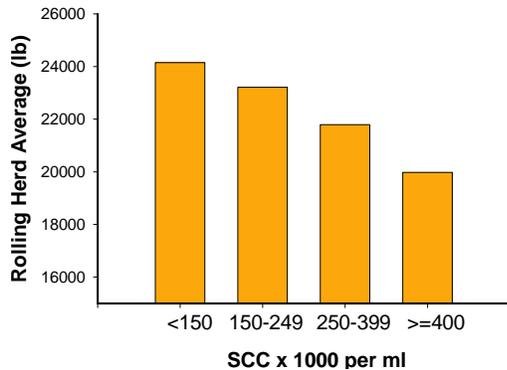
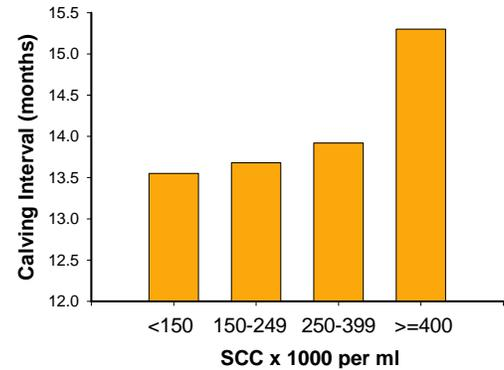

Figure 3. Rolling herd average and SCC
Figure 4. Calving Interval and SCC
To evaluate the relationship of SCC with various herd management parameters, we summarized DHIA data for California herds in 2009. **Figure 3** shows milk yield per cow for herds in four SCC categories. Herds with the lowest SCC had 2357 lbs. more milk per cow than those over 250,000, and 4170 lbs. more than those over 400,000 SCC! Milk yield goes down when SCC goes up, a fact that has been known for decades. **Figure 4** shows calving interval (CI) for the same four SCC categories. Again, we see that herds with low SCC perform much better than those with higher SCC. The CI for the lowest SCC group is 1.75 months shorter than the CI for herds over 400,000 SCC. This is no surprise - research has shown mastitis reduces reproductive performance.